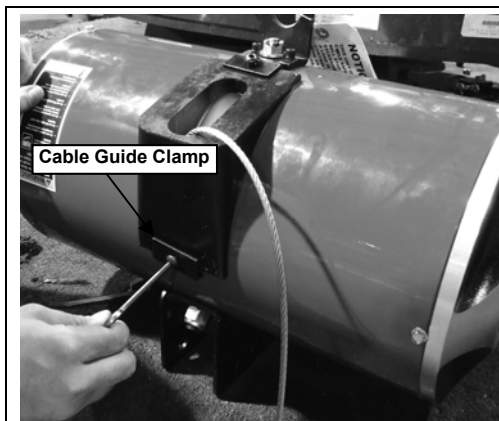

Figure 4-5
- Step 7. Remove cable guide clamp(s) and cable guide. (See Figure 4-5)